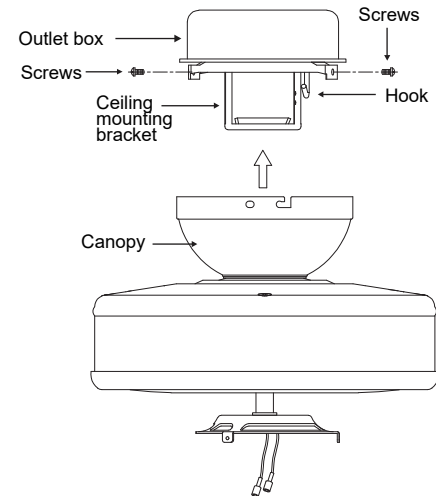

Fig. 16
Step 3. Make sure all four mounting screws are tight. (Fig. 16)